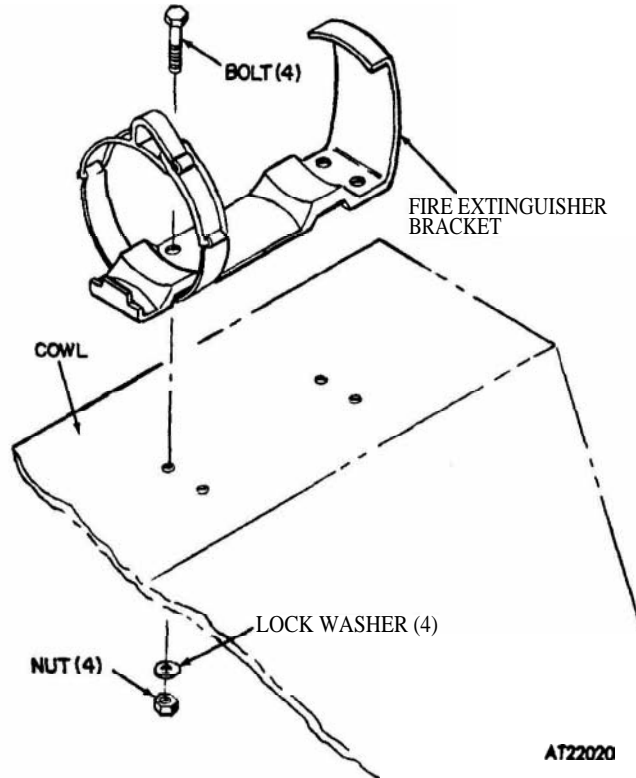

Figure 2-370. Fire extinguisher mounting bracket, removal and installation.
(1) Remove fire extinguisher from bracket (fig 2-370).
(2) Remove bracket by removing nuts, washers, and bolts securing bracket to cowl.
(1) Position bracket to cowl and secure with four bolts, lock washers, and nuts (fig 2-370).
(2) Install fire extinguisher on bracket.